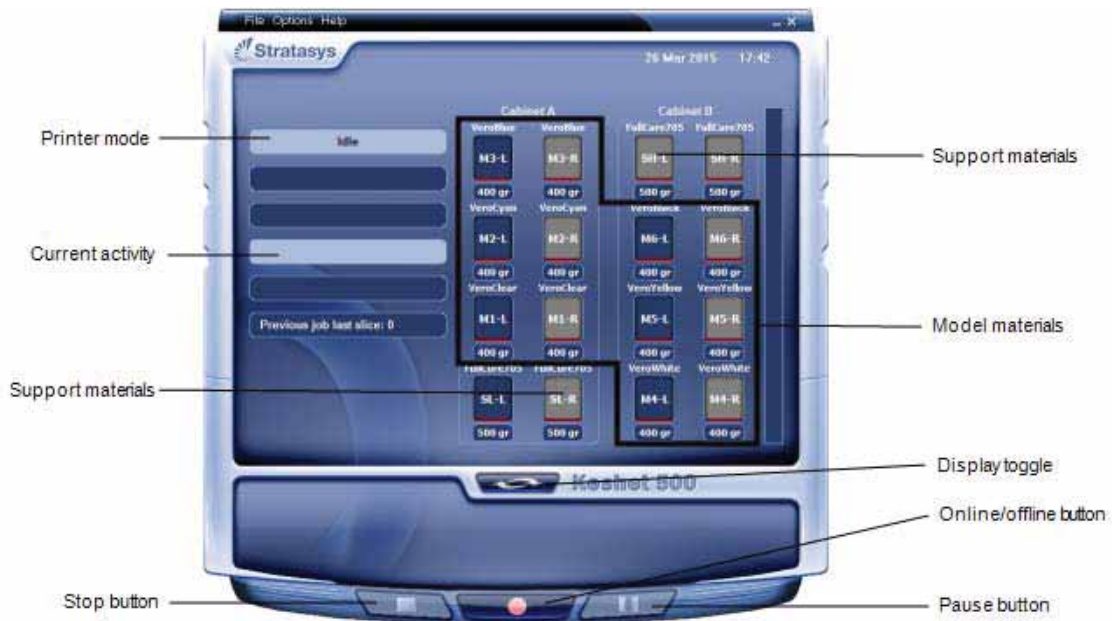

Figure 6-3: Stratasys P750K interface
Stratasys P750K printers use up to 12 cartridges of Model material and four cartridges of Support material, each weighing 3.6 kilograms when full. A graphical representation of the cartridges loaded and their current weight appears in the printer interface (see figure 6-3).
3. Check the printer interface to make sure that the new cartridge is detected and that its weight is displayed (see figure 6-3).
2. Make sure that there is sufficient Model and Support material loaded, as indicated in the printer interface (see figure 6-3). You may want to replace the cartridges of Model and Support material currently loaded in the printer to avoid the need for replacing them during printing.
1. If the printer is in offline mode, switch it to online mode by clicking the red button at the bottom of the printer interface (see figure 6-3 on page 3).